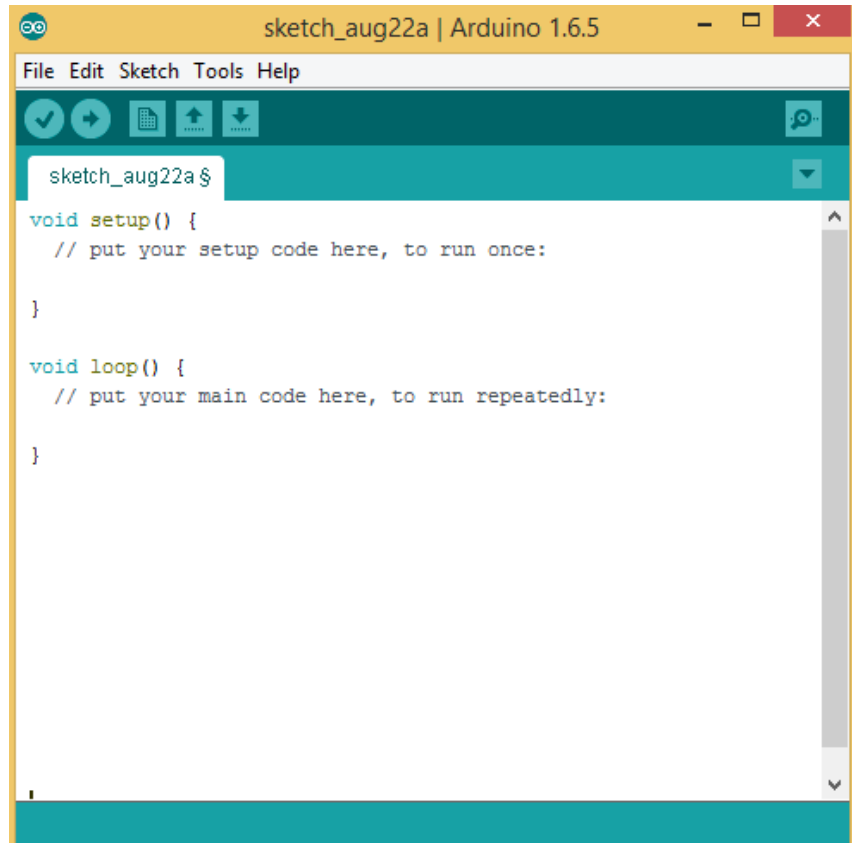

Figure 1.4: The New Project Dialog in Arduino
2. Start **Arduino** by going to **Start -> Programs -> Arduino -> arduino**. Once the application starts, select the **File -> New** menu item. A new project (also referred to as *sketch*) is created as shown in Figure 1.4 below.